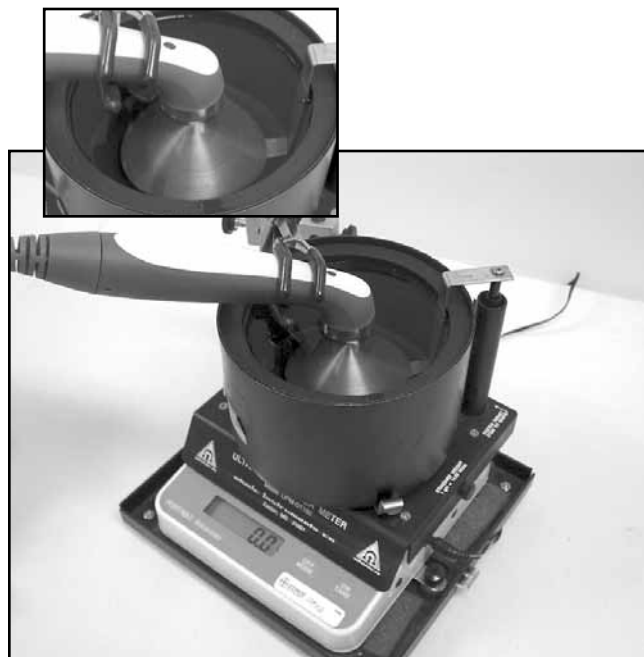

FIGURE 5.23
2. Place an Applicator into the Power Meter retainer. Make certain the Sound Head is completely submerged in the degassed water and centered directly over the Stainless Steel Cone. See Figure 5.23.